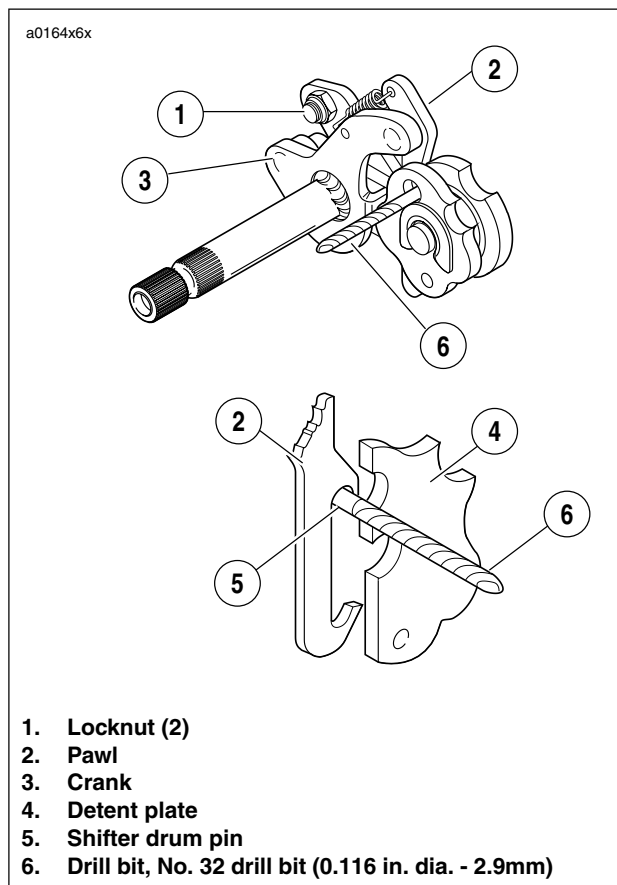

Figure 6-53. Shifter Shaft Assembly Alignment
5. See Figure 6-53. Align shifter shaft.
- b. Place a No. 32 drill bit (0.116 in. dia.) through hole in detent plate (4), and between pawl (2) and drive pin at end of shifter drum shaft.
- c. Push down top of crank (3) to remove all clearance between pawl and drill bit; this will correctly align pawl to shift drum pins (do not push down with too great a force, as this might cause the shifter drum to rotate).
- d. With bit in place, tighten shifter shaft assembly bottom locknut (1) first to 90-110 **in-lbs** (10-12 Nm). Then, tighten shifter shaft assembly top locknut (1) to the same torque.